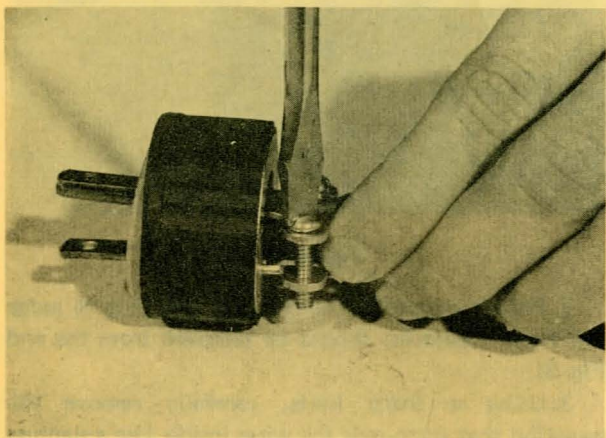

Figure 10
9. Tighten the clamp screw (Fig. 10).